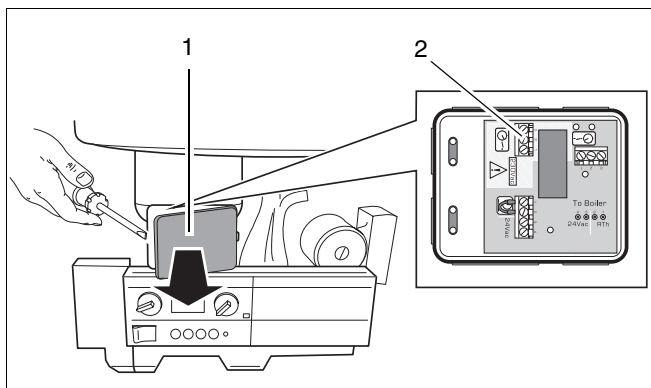

fig. 23 Connection box - 230 Volt connection
- Remove the cover of the room control converter (→ fig. 23, item 1).
- Feed the 230V switch live and neutral (from external controls) through the cable gland (→ fig. 23).
- Connect the switch live to terminal "1" and a neutral to terminal "2" (→ fig. 23, item 2).
Terminal 3 (→ fig. 23, item 2) is not used.